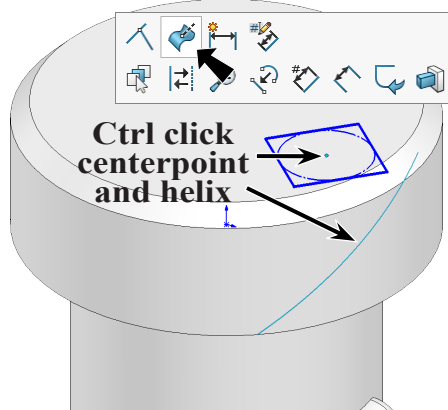

Fig. 71
Step 7. **Ctrl click center-point of polygon and helix** to select both. **Release Ctrl key** and click **Make Pierce**  on the context toolbar, **Fig. 71**. Make Pierce adds a Pierce relation between sketch and helix.